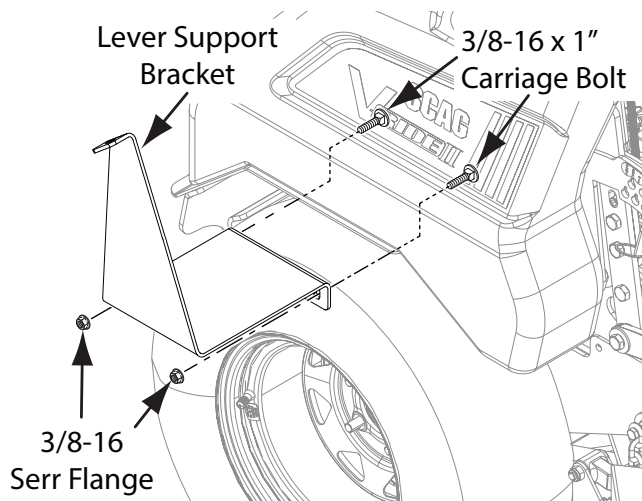

Figure 3-55. Install Lever Support Bracket
- Install the lever support bracket and secure to the RH fender and machine frame using two (2) 3/8-16 x 1" carriage bolts and two (2) 3/8-16 serrated flange nuts supplied in the hardware kit provided with this accessory. See Figure 3-55.